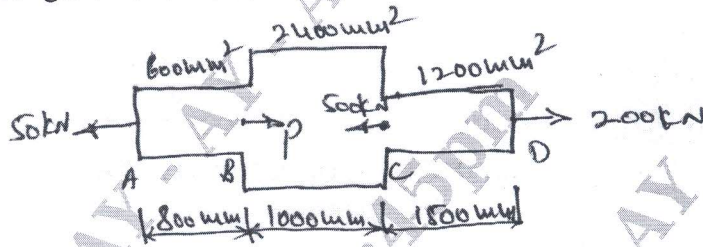

Fig. Q1 (c)
- c. A member ABCD is subjected to point loads as shown in Fig. Q1 (c). Calculate